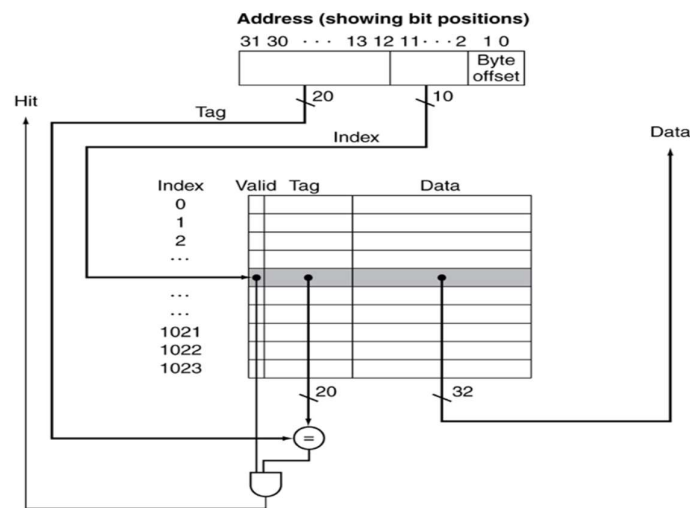

Fig 6.2: Cache memory organization and data access mechanism [Courtesy: Virtual Lab, IITKGP]
- **Hit:** if a cache access finds data present in the cache memory, as in Fig.6.2